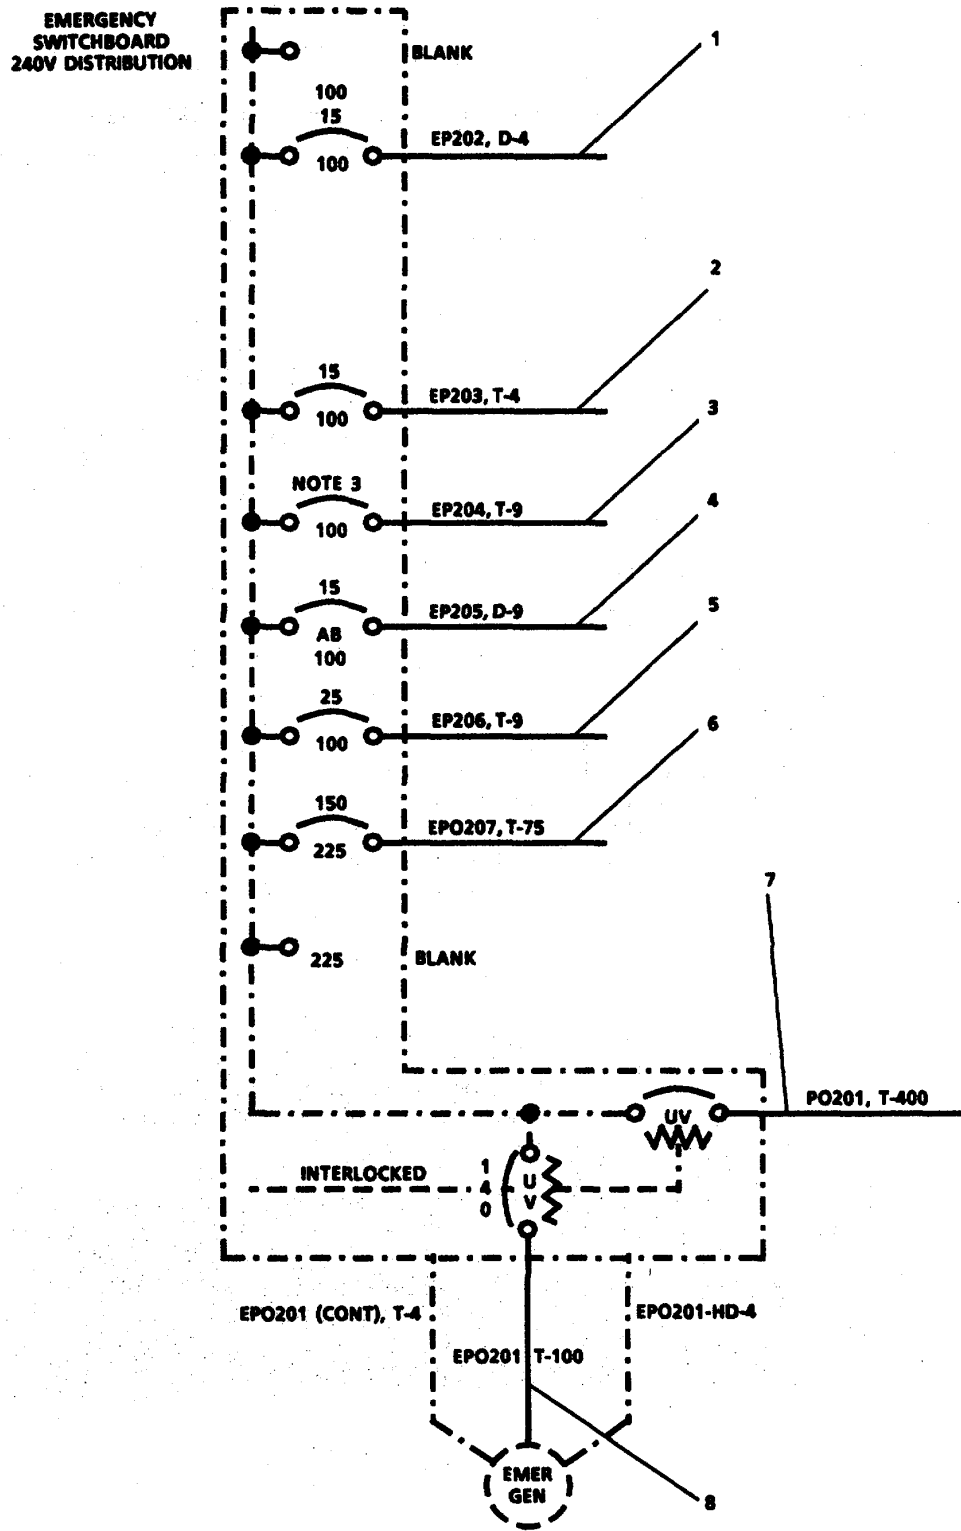

FIGURE 3-157. 120V Emergency Power Distribution.
**3-172. Repair 120V Emergency Power Distribution. (Figure 3-157)**